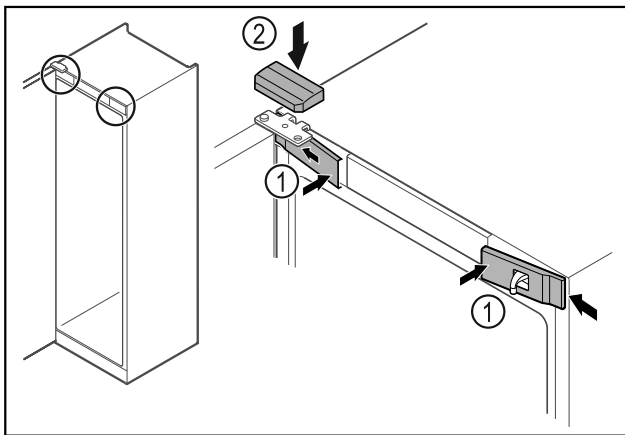

Fig. 52
- ▶ Hook in the front covers Fig. 52 (1) on the side and snap them into place.
- ▶ Snap on the top cover Fig. 52 (2) from above.